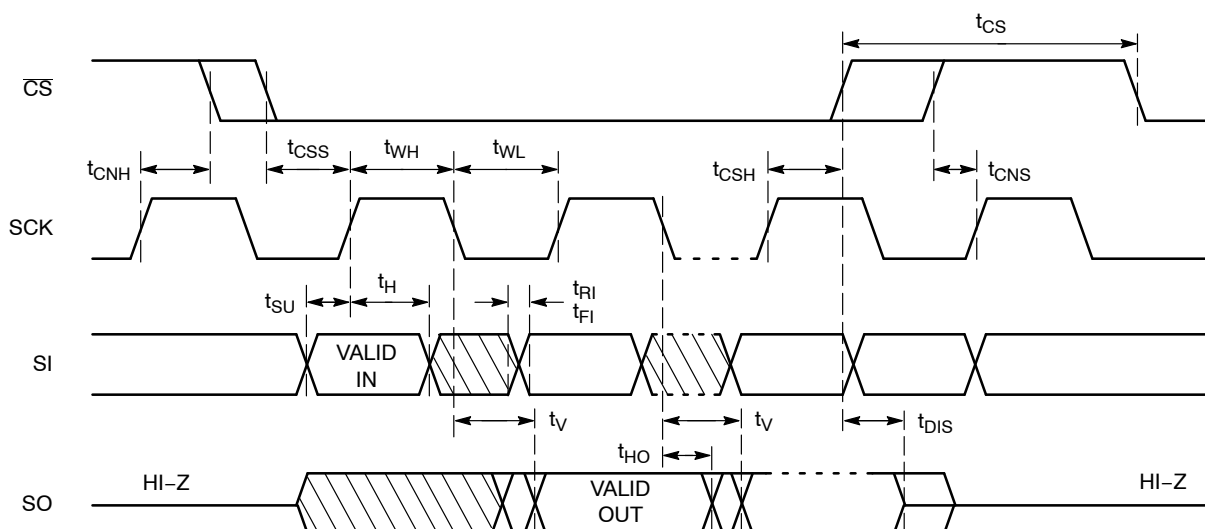

Figure 2. Synchronous Data Timing
9. **All Chip Select (CS) timing parameters are defined relative to the positive clock edge (Figure 2). t_{CSSH} timing specification is valid for die revision D and higher. The die revision D is identified by letter "D" or a dedicated marking code on top of the package. For previous product revision (Rev.C) the t_{CSSH} is defined relative to the negative clock edge.**
After a high to low transition on the $\overline{\text{CS}}$ input pin, the CAT25128 will accept any one of the six instruction op-codes listed in Table 10 and will ignore all other possible 8-bit combinations. The communication protocol follows the timing from Figure 2.